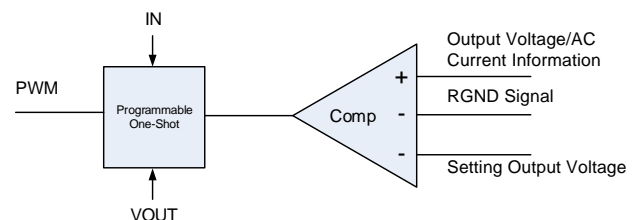

Figure 2. Simplified Control Schematic of AOZ23695QI
The simplified control schematic is shown in Figure 2. The high-side switch on-time is determined solely by a one-shot whose pulse width is inversely proportional to input voltage (IN). The one-shot is triggered when the internal setting output voltage is higher than the combined information of output voltage and the AC current information of inductor and load line signal, which is processed and obtained through the sensed low-side MOSFET current once it turns-on. The added AC current information can help the stability of constant-on time control even with pure ceramic output capacitors, which have very low ESR. The AC current information has no DC offset, which does not cause offset with output load change, which is fundamentally different from other V^2 constant-on time control schemes.